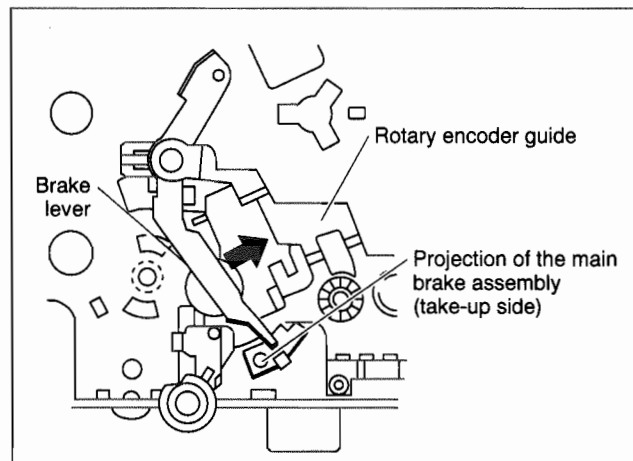

Fig. 2-2-38
- (5) When installing the main brake assembly (take-up side), slide the brake lever in the direction as indicated by the arrow to prevent it from hitting the projection of the main brake assembly (take-up side). (See Fig.2-2-38.)